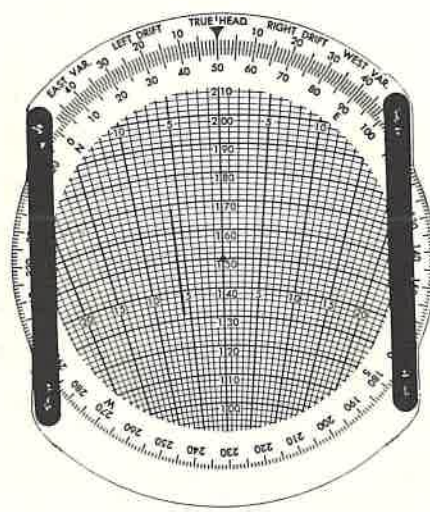

FIG. 5a
1. Place TH-1 (50 deg.) at the True Heading Index and TAS-1 (150 mph.) under the grommet. (See Fig. 5a)